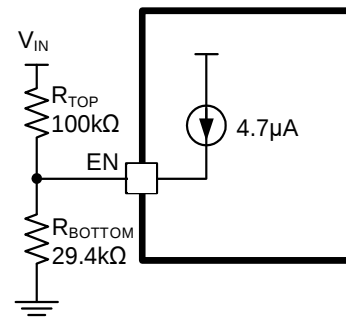

Figure 6: Configurable V_{IN} UVLO
The MP2984 features a configurable UVLO hysteresis. During start-up, the EN pin sources a 4.7μA current (see Figure 6) once V_{EN} exceeds 1.35V. V_{IN} has to decrease in order to overcome the current source and to stop switching after the IC starts up. The V_{IN} switching turn-on threshold (see Figure 6) can be calculated with Equation (1):